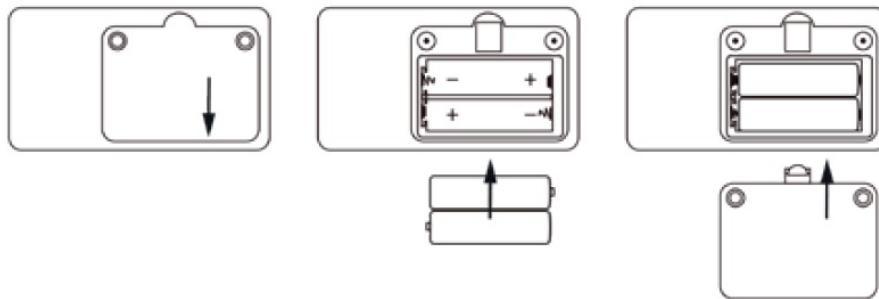

Figure 3. Batteries Installation
- **A.** Refer to Figure 3. Use a screwdriver to unscrew the two screws from the battery compartment on the back of the product and open the back cover of the battery compartment.